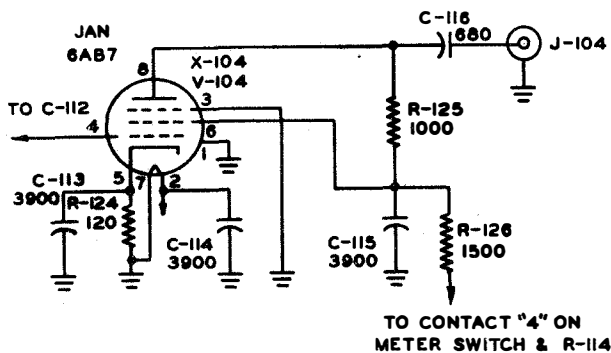

Figure 2-4. Antenna Multicoupler Unit, Output Stage, Schematic Diagram
c. OUTPUT STAGES.—Ten of these stages are connected in two banks, each bank consisting of five stages in parallel. (See figure 2-4.) Since these stages are identical in performance and design, only the V-104 output stage will be described in detail. C-112 couples the output from V-103 to V-104, V-106, V-108, V-110 and V-112, all output stages of the same bank. R-148 is a grid resistor common to all five output stages connected in parallel. R-124 functions as a cathode resistor for V-104, with C-113 functioning as a cathode resistor bypass capacitor. C-114 functions as a heater bypass capacitor and serves to further isolate the stage from the others by minimizing cross-talk effects due to common heater wiring coupling. R-125 is the plate load resistor for V-104, and C-116 is the output coupling capacitor for this stage. This capacitor couples the output from the stage to the coaxial line feeding the receiver through the jack panel. The R-C network comprising R-126 and C-115 functions as a decoupling